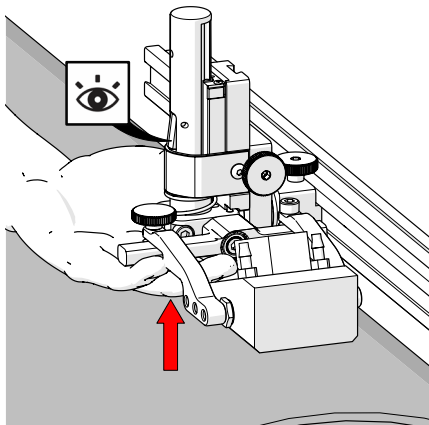
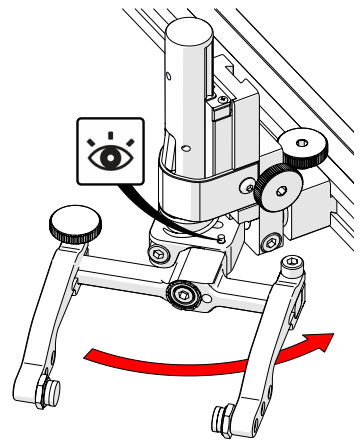

Fig. 106 - Latch probe holder
Fig. 112 - Stop post locates 90°
1. Ensure the probe holder is in the latched, upper position. Do this by lifting the probe holder till the latch is fully exposed (Fig. 106).
1. Ensure the probe holder is in latched, upper position (*Fig. 106*).
To return the transverse adjustment to neutral (90°). The probe holder must be in the latched, upper position (*Fig. 106*). Rotate the yoke until the stop post contacts the base of the probe holder (*Fig. 112*). Then tighten the transverse adjustment screw.
1. Ensure the probe holder is in latched, upper position (Fig. 106).